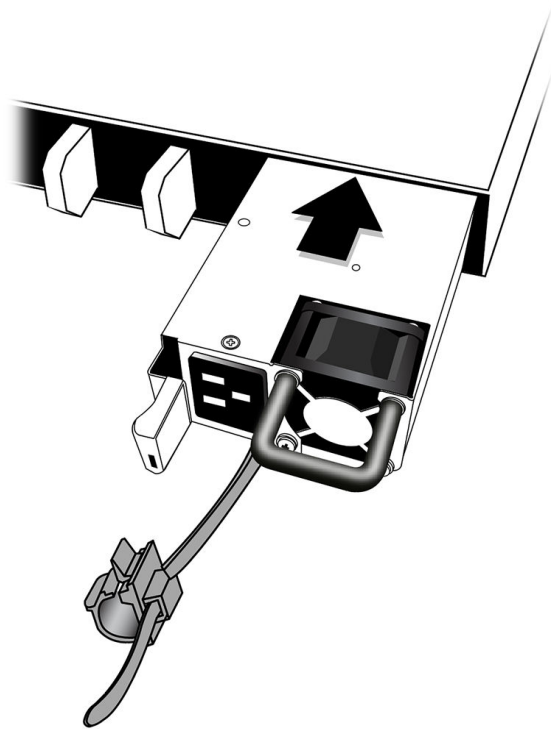

Figure 27: Installing an 800 W AC Power Supply
6. Carefully slide the power supply all the way into the power supply bay (see Figure 27).